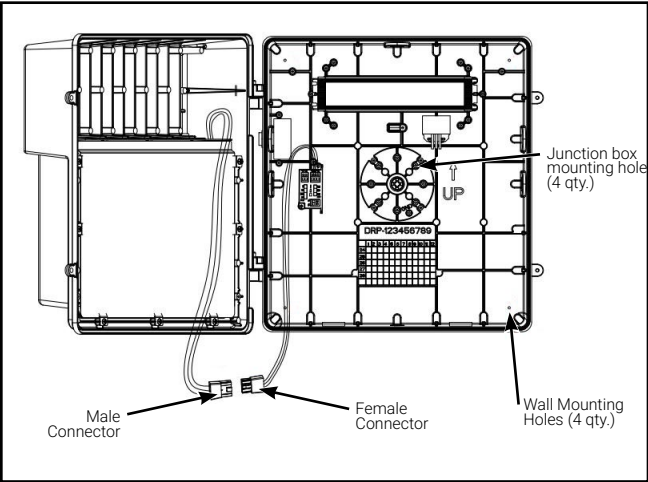

Figure 2
1. Open the fixture by loosening the two Phillips head screws on the side opposite the hinges. Disconnect the male and female connectors. Remove the glass door assembly, and gently set it aside. (Figure 2)